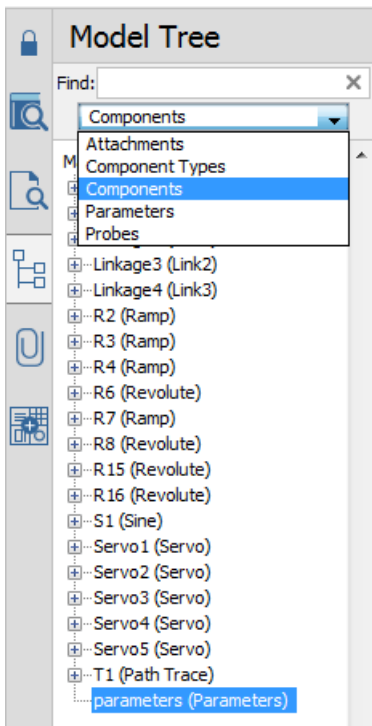

Figure 2.1: Components view in the Model Tree
- **Components:** This view organizes the model tree view according to the *Name* of each component or subsystem. Component and subsystem nodes are identified by their name followed by their type (see **Figure 2.1**). Enter a term in **Find** to search for component and subsystem names that match your term (the component type is ignored in the search). This is the default model tree view.